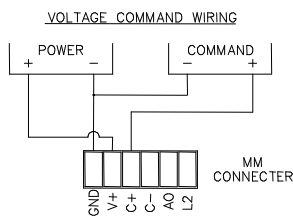
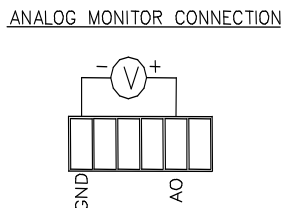

Figure 8
Figure 9
3. See figure 8 for voltage command wiring, and figure 9 for voltage monitor wiring.
All voltage command MMs use common mode voltage, meaning the DC Common pin is the common reference for both power and command. Figure 8 shows the proper connections.
See figure 9 for voltage monitor feedback signal wiring.